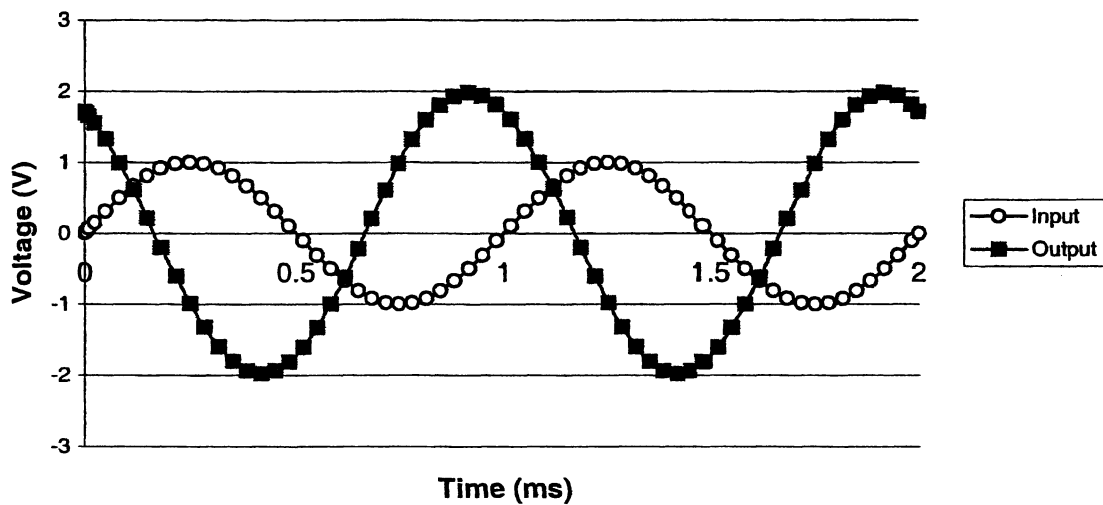

Fig 2
2. Figure 2 shows two sinusoidal voltages, one labeled as input and the other labeled as output. The input and output sinusoidal signal have same frequency,  $f = 1000$  Hz, but different amplitudes.